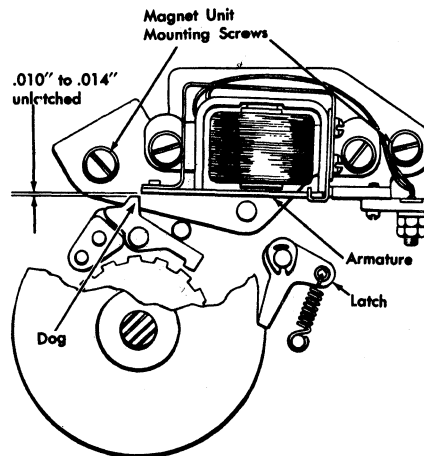

Figure 19. CF Clutch Adjustment
3. Position CF magnet unit to obtain .010-inch to .014-inch unlatching clearance between armature and CF dog with armature attracted (Figure 19).